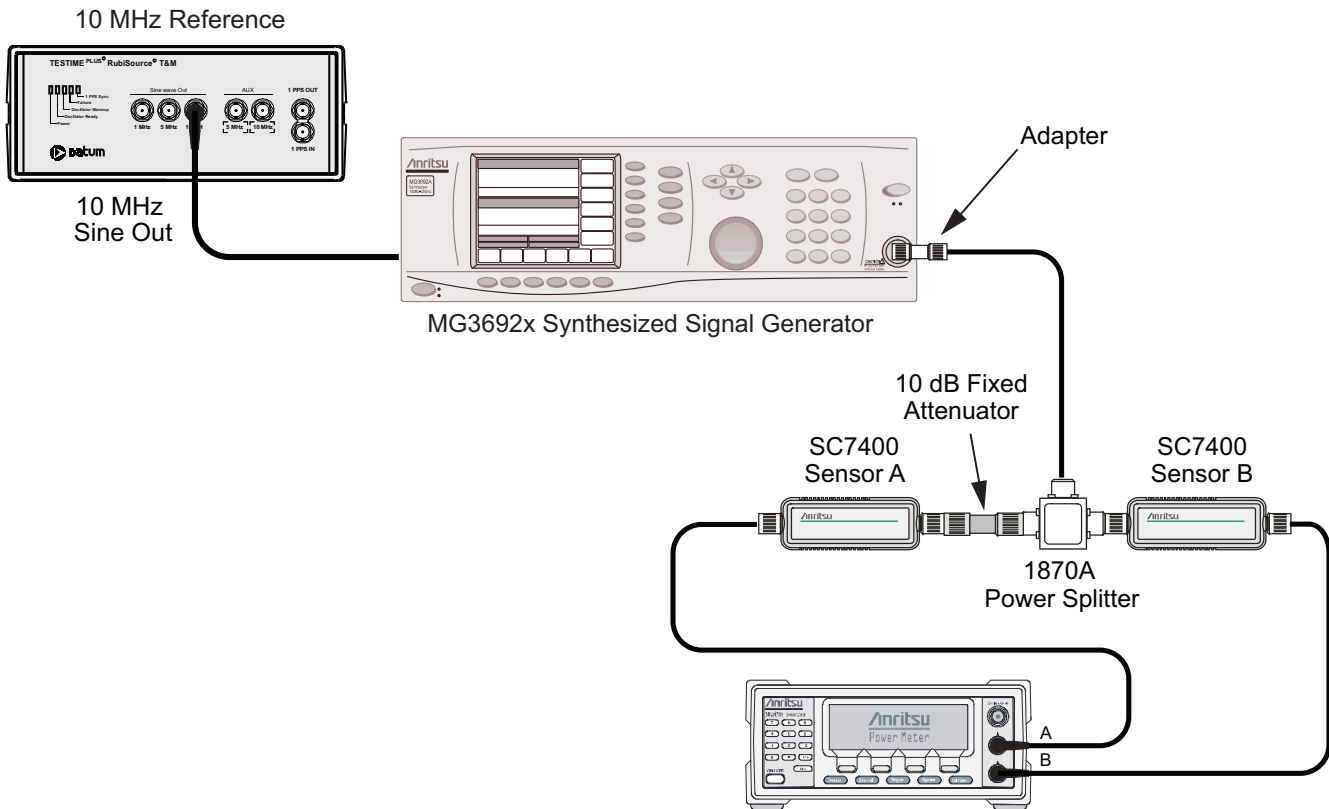

Figure 3-1. Amplitude Accuracy Pretest Setup
6. Install the 10 dB Fixed Attenuator to the other Power Splitter output and then connect Sensor A to the end of the attenuator as shown in Figure 3-1.
6. Install the 10 dB Fixed Attenuator to the other Power Splitter output and then connect Sensor A to the end of the attenuator as shown in Figure 3-1 on page 3-12.